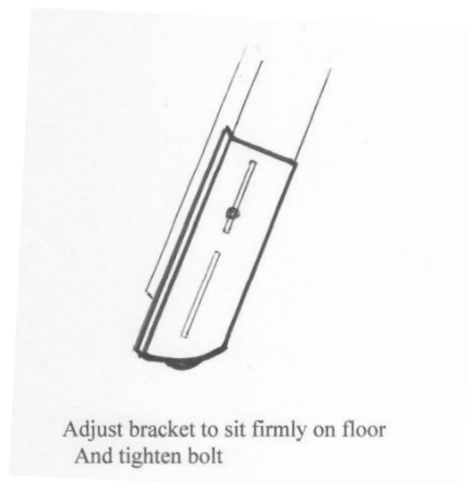

Fig. 5.
1. With the ladder in its fully open position, attach the adjustable black metal extensions to the bottom of **each** side of the ladder. *See Fig 5.*